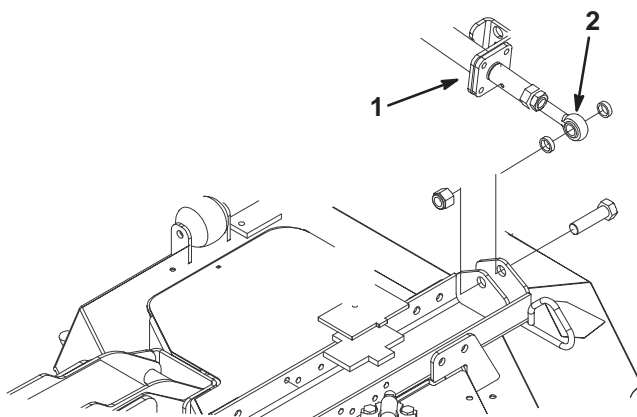

Figure 2
3. Remove bolt and locknut securing impact arm ball joint to mower mount brackets (Fig. 2).